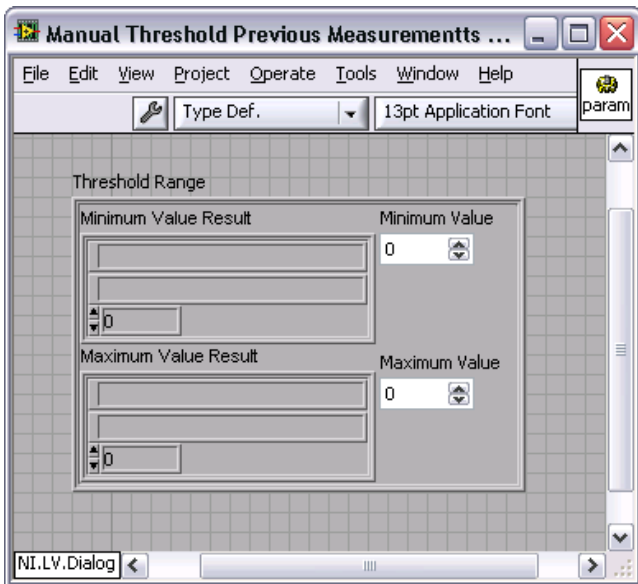

Figure 5-1. Updating the Type Definition
6. Complete the following steps to build the front panel shown in Figure 5-1: